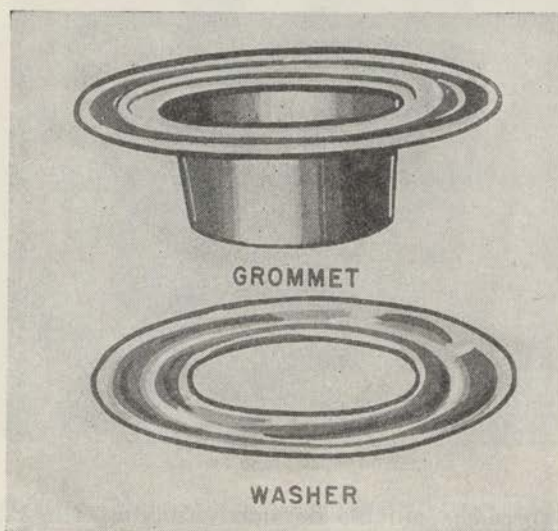

FIGURE 76.—Grommet.
m. Grommets (fig. 76).—Ropes are attached to paulins and end curtains by means of No. 4 brass washer grommets.